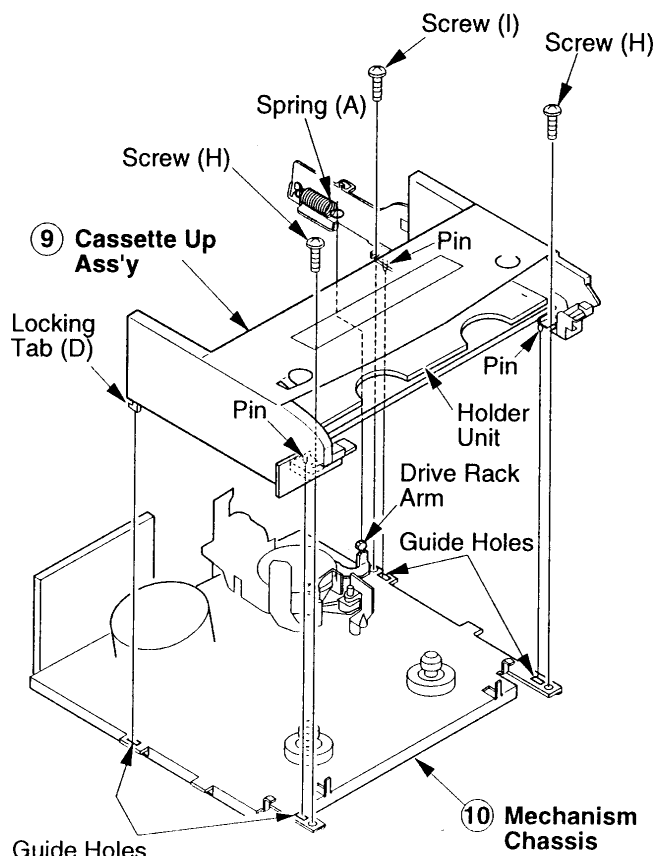

Fig. 11 - Cassette-Up Assembly Removal
**Cassette-Up Assembly Removal (Fig. 11)**
1. Slide the cassette holder slightly to access screws (H) and remove the two (2) screws (H) (Fig. 11).
2. Remove one (1) screw (I).
3. Unhook spring (A).
4. Slide the cassette-up assembly toward the front to release tab (D) and then lift the cassette-up assembly to remove it.
**Note:** • When reinstalling, confirm that the three (3) pins and tab (D) under the cassette-up assembly are in each of the four (4) guide holes on the mechanism chassis. Then, slide the cassette-up assembly toward the back assembly plate so that there is no movement of the cassette-up assembly when reinstalling.
- Carefully tighten two (2) screws (H) and one (1) screw (I). **DO NOT OVERTIGHTEN** the screws. If the screws are tightened too much, the cassette-up assembly will bend.
- Reconnect spring (A) to the drive rack arm on the mechanism chassis.